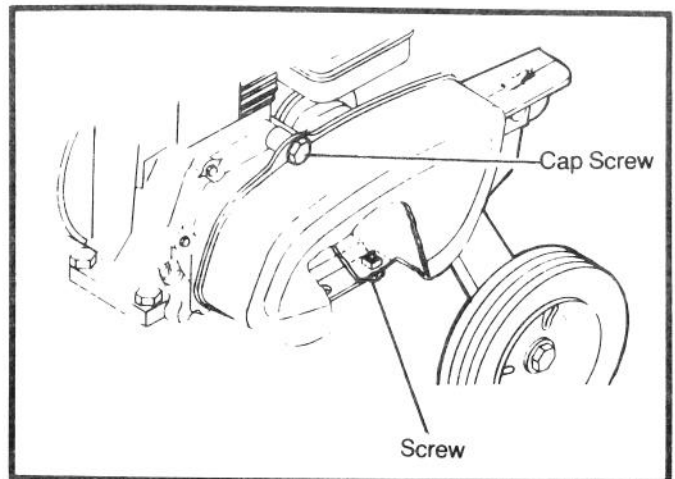

FIGURE 17
1. Remove belt guard from tiller by removing cap screw at top of belt guard and screw under belt guard, Fig. 17.